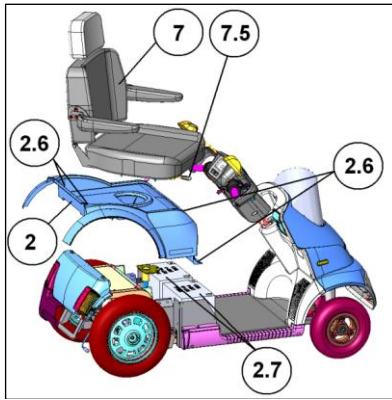
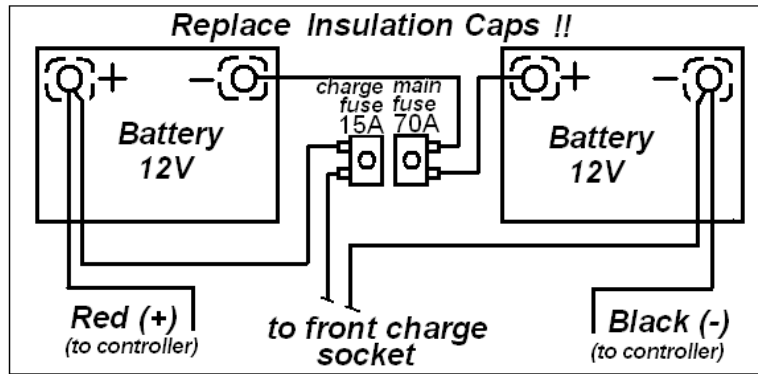

Figure 11
Figure 12
2. The numbers in parentheses refer to the parts illustrated in figure 11.
| Replace batteries | <p>Note! Batteries must be replaced by trained professionals only.</p> <p>Warning! Batteries contain high energy and can spark, resulting in a possible fire hazard.</p> <p>Warning! Working with batteries can cause damage and Injury if not done properly.</p> <p>In this procedure, refer to Figure 12.</p> <ol style="list-style-type: none"> 1. Remove the terminal insulating cap from one battery terminal. 2. Using a 10/13 mm key, unscrew the wiring from the terminal. Take care not to let the key touch any other terminal or metal part, as this could cause damage or injury. 3. Repeat steps 1 and 2 for all the other terminals. 4. Remove the old batteries and install the new ones. 5. Connect the wires of the new batteries as shown in Figure 11 (also shown on the label located near the batteries). 6. Screw down the terminals securely, and replace the insulating caps. |